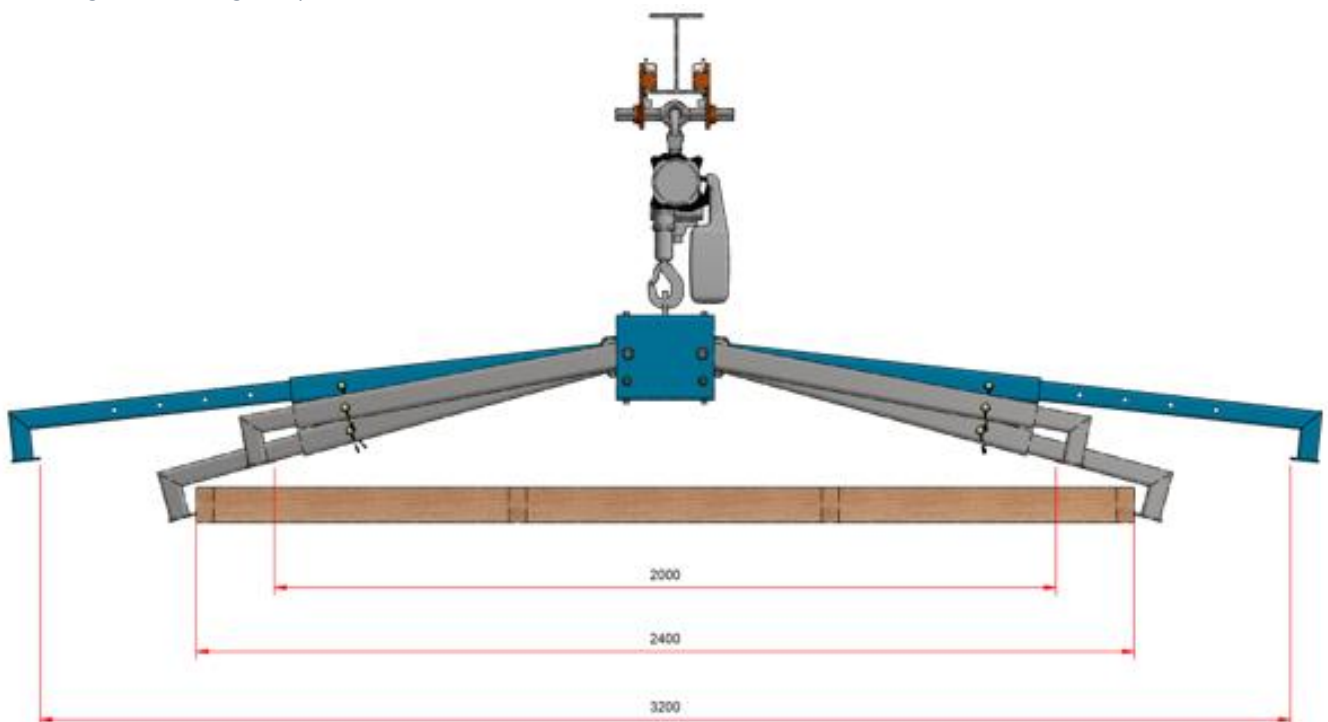

Figure 2, Clamp extensions
3. Modify (if required) the arms of the Frame Lifting Clamp to suit the size of the material. Simply remove the pins from each arm; move the arms in/out until the clamp is touching the outside of the material; then replace the pins into the holes in the arms that suit the size required. (The holes are set to suit standard frame sizes between 2000mm and 3200mm. (See Figure 2).